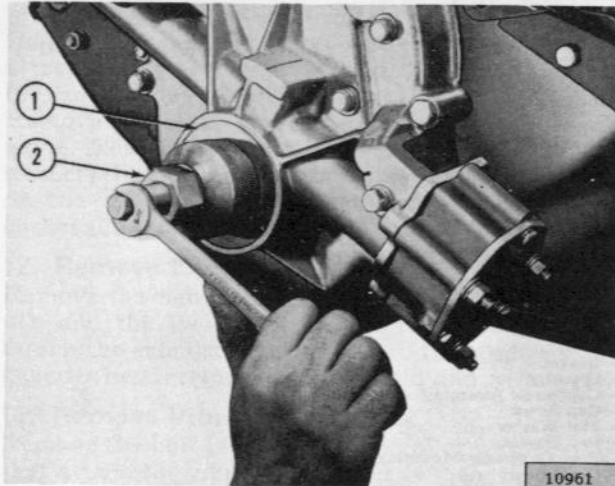

FIG. 77—REMOVING FRONT CRANKSHAFT OIL SEAL
b. Turn clockwise on the screw of the tool to force the seal from its seat in the timing chain cover as shown in Fig. 77.